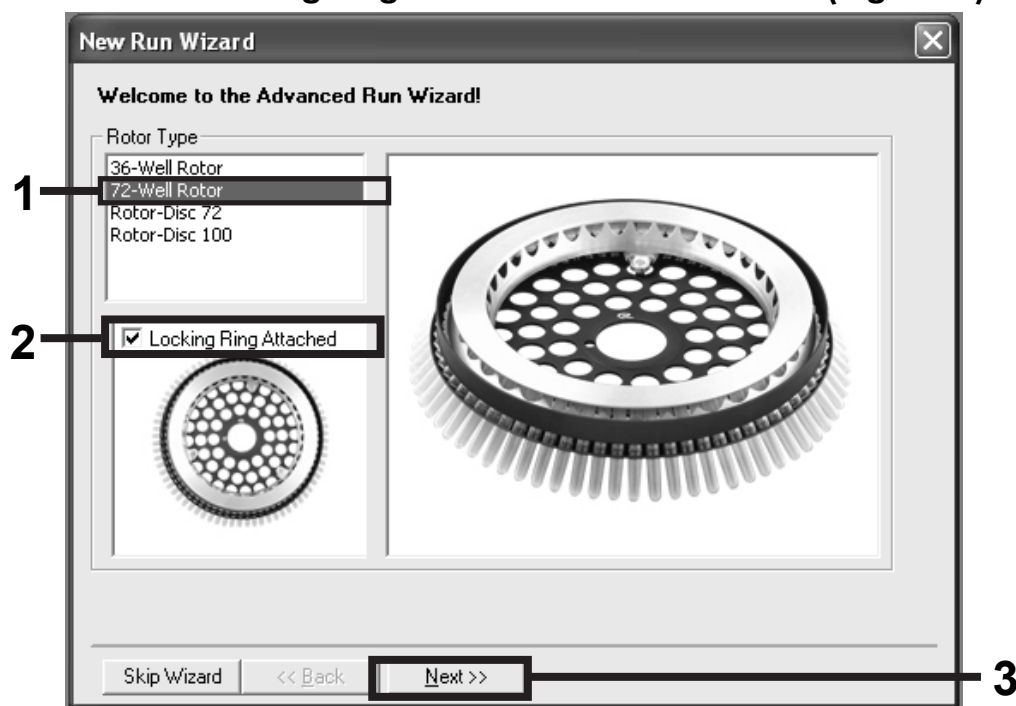

Figure 2. The “New Run Wizard” dialog box.
10. Ensure that the correct rotor is selected, and check the box to confirm that the locking ring is attached. Click “Next” (Figure 2).